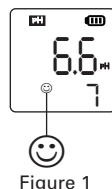

Figure 1
- Insert the probe in pH 7.00 calibration solution, stir gently, and leave it to stand. Wait for the measurement stability icon (☺) to appear and stay on the display (see Fig 1); then short press to complete the 1st calibration. Tester returns to measurement mode, and the calibration icon "M" appears on bottom left side of display.